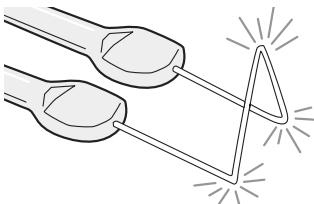

Fig. 13—Filament reformed into bent up loop
1. Create a pipette with an inside diameter (ID) opening of about $0.5\mu\text{m}$, and fire polish the tip end. See "Fire Polishing Patch Clamp Pipette or Standard Pipette Tip" on page 15.
2. Select the large filament and form a bent-up loop in the end (Fig. 13).